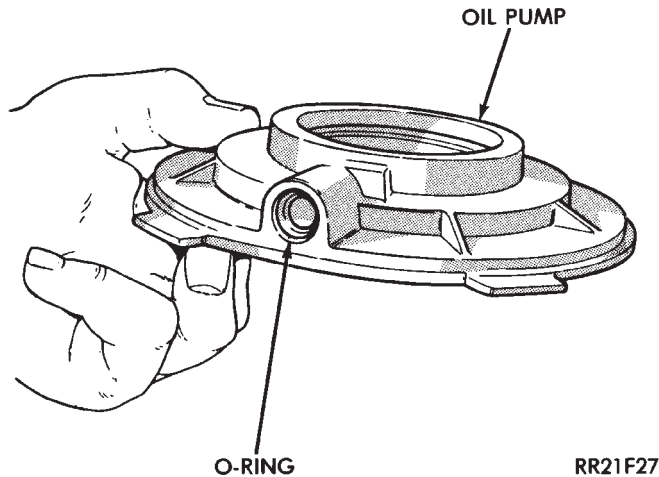

Fig. 71 Pickup Tube O-Ring Position
- (2) Assemble oil pickup screen, connecting hose, and tube.
- (3) Install new pickup tube O-ring in oil pump (Fig. 71).